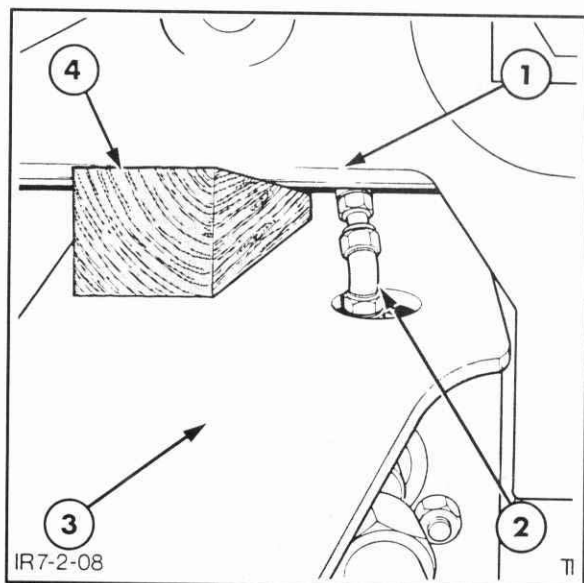

Figure 7-65
3. Raise one end of the axle and support the raised end with an axle stand to prevent axle movement. For additional safety, insert a wooden wedge between the axle and front support on the lowered side of the axle. Disconnect the steering cylinder hose connection at the cylinder, Figure 7-65. Remove the wedge and repeat this procedure to disconnect the hose on the opposite end of the cylinder.